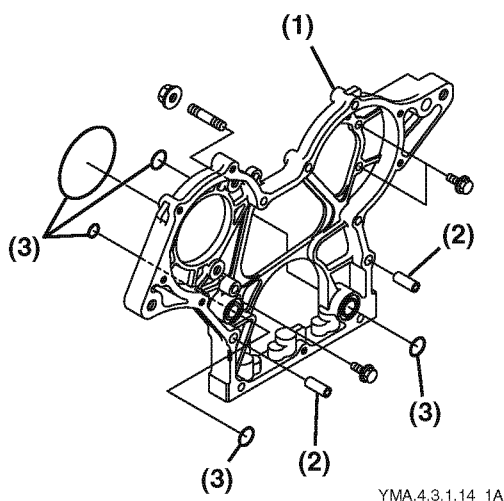

Figure 5-58
1. Remove the gear housing (Figure 5-58, (1)) from the cylinder block.
2. Remove all O-rings (Figure 5-58, (3)) from the oil passages.